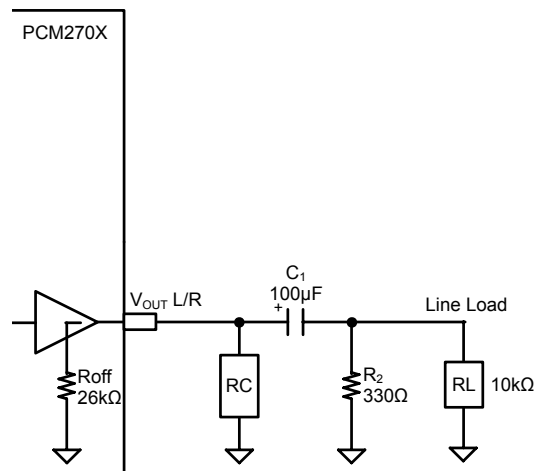

Figure 2
8.2 Example of 10k Ω Line Out Load (Fig. 2)
$R_2 = 330\Omega$ in Figure 2 is dummy resistor for reducing pop/click noise level at suspend on and power off. Smaller resistor reduces it lower, but it changes cut-off frequency f_L higher, which is determined by R_2 and C_1 , and it is $f_L = 5\text{Hz}$ for $R_2 = 330\Omega$, $C_1 = 100\mu\text{F}$.
The application example in which wait time for restart is reduced by using /SSPND signal as compared with Figure 2 case.